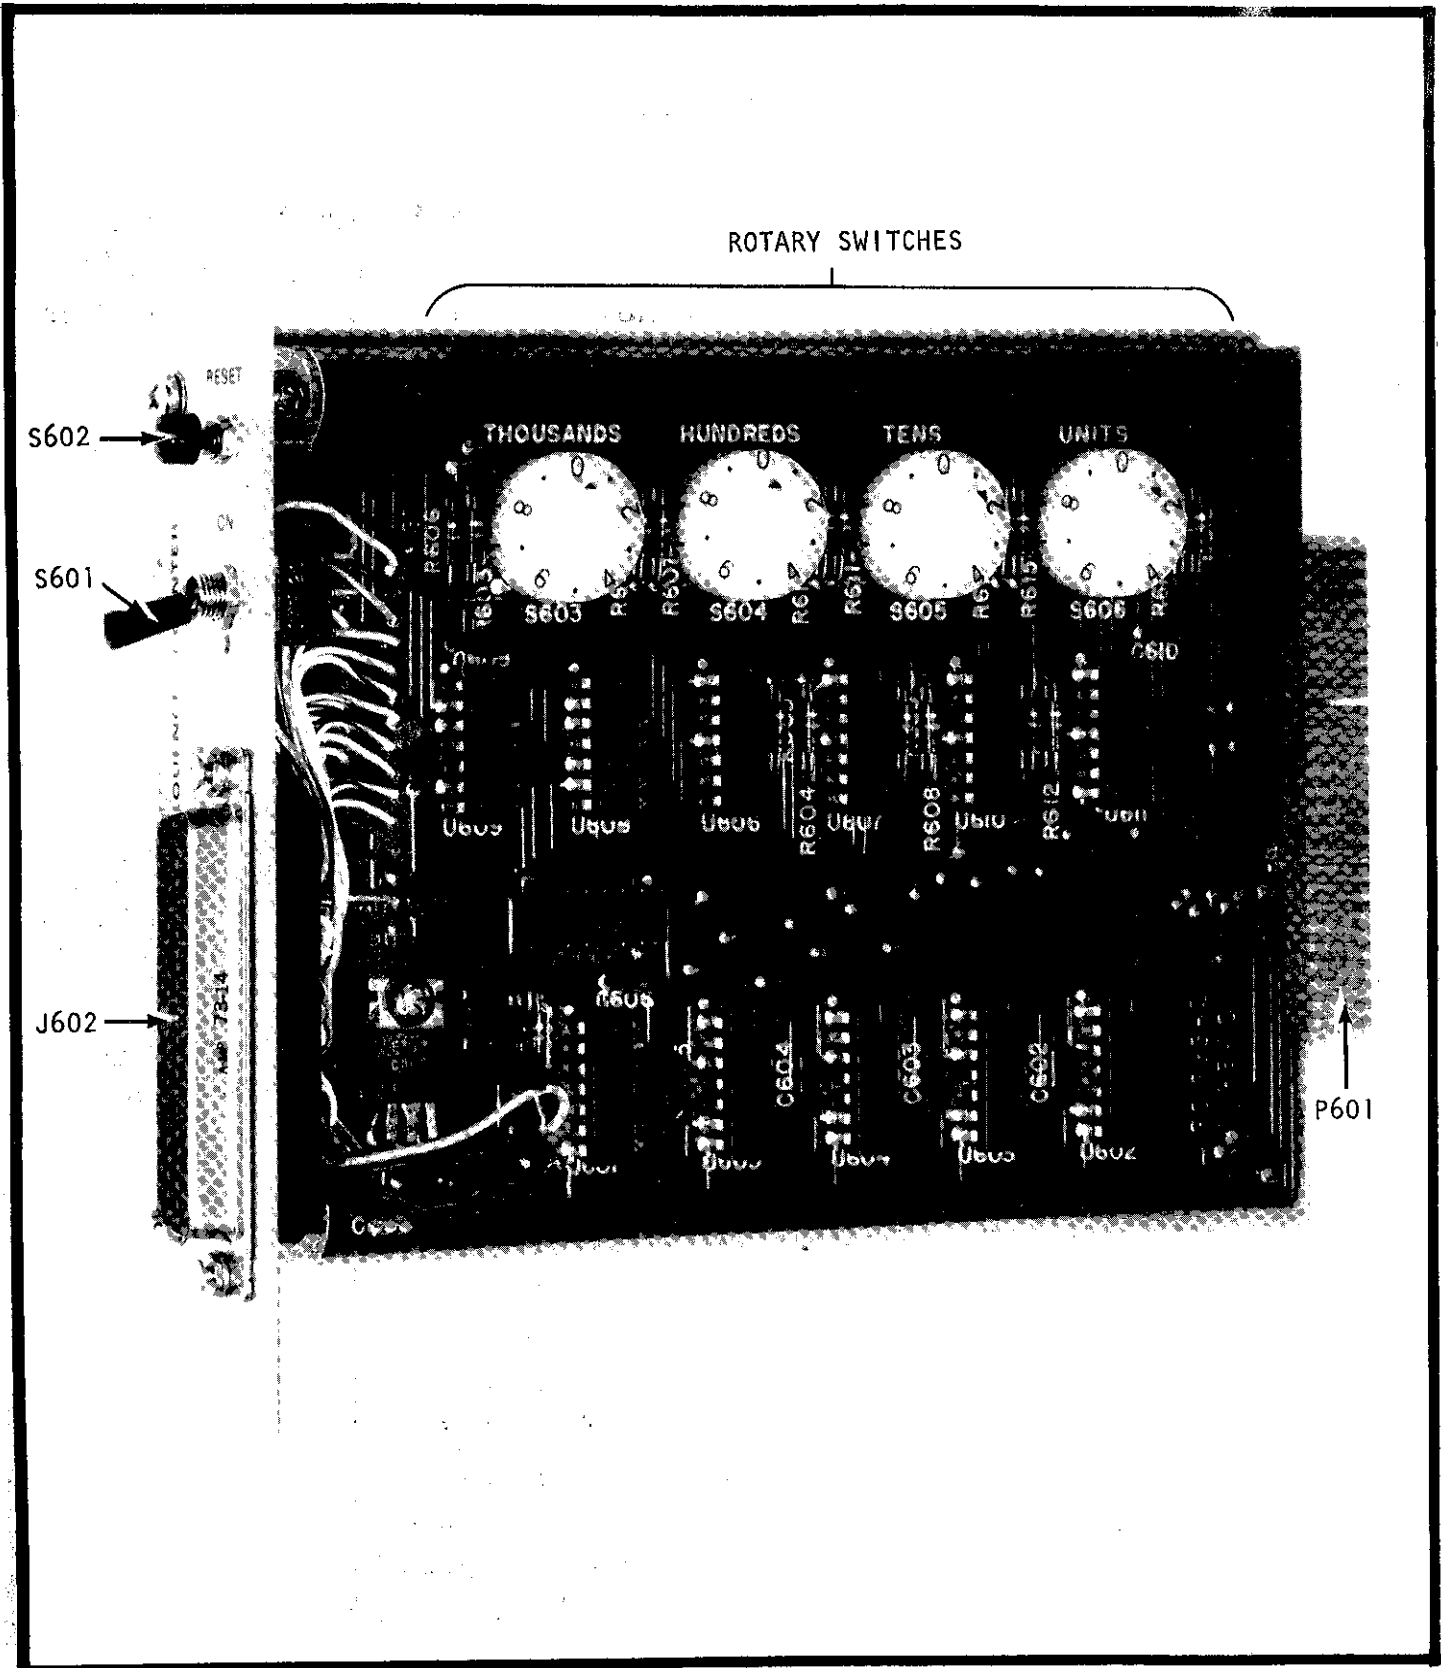

FIGURE 24. Model 7504 Controls and Connectors.
1. Set the Toggle switch (S601) to off (down position). (See Figure 24)